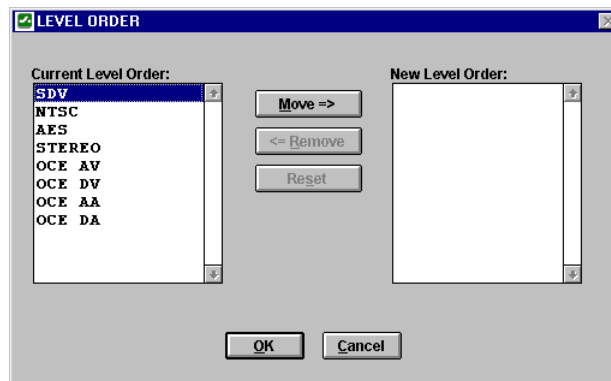

Figure 17 Level Order Window
5. If you wish to change the level order for this level, check the **Modify Level Order** box to open the LEVEL ORDER window (Figure 17). Use the **Move** and **Remove** buttons to construct a new list of levels in the desired order. Level order controls the order of display when levels are displayed on a control panel or addressed in CPU link protocols.